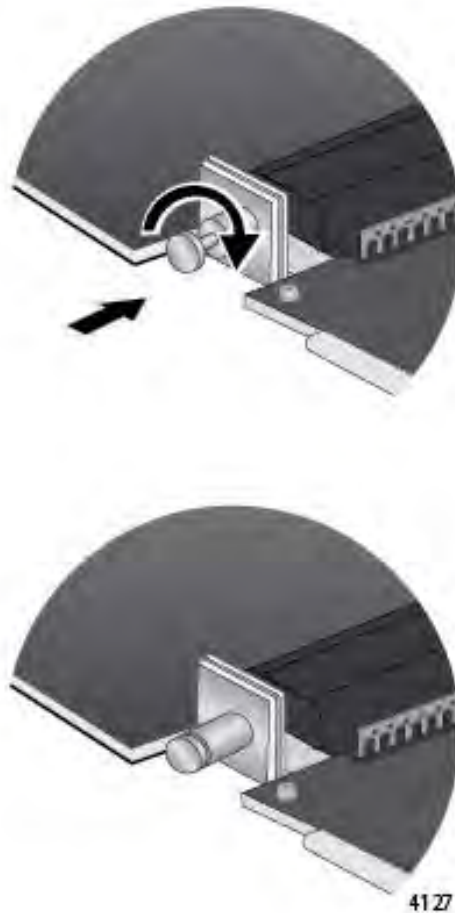

Figure 87. Releasing the Retaining Pin
11. Turn the retaining pin on the side of the line card one quarter turn to release it. Refer to Figure 87 on page 160.